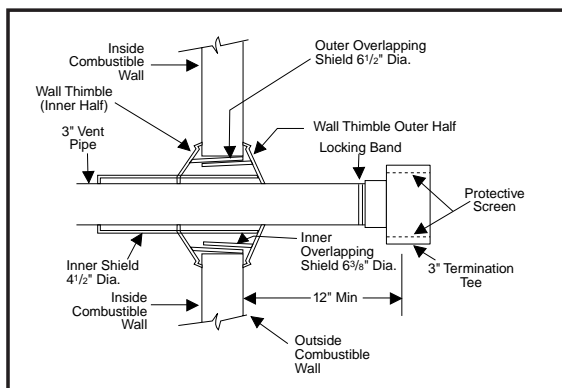

Figure 12. Typical Termination
11. Cut an 8 inch minimum piece of vent pipe and connect the coupling to the termination tee. The inside of the tee must be a minimum of 12 inches from the outside of the wall. (See Figure 12.)